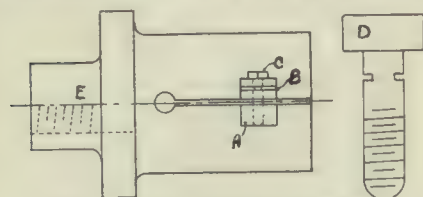

Fig. 1.—Jig for Armature Bearing.
Fig. 1 shows a jig for boring armature bearings. The jig has a screw (E)